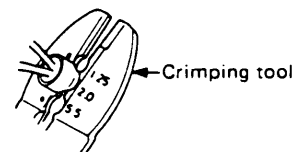

Fig. 6
(4) As shown in Fig. 6, use the crimping tool to crimp the metal sleeve at the center position. Be sure to crimp fully to the complete closure of the tool.